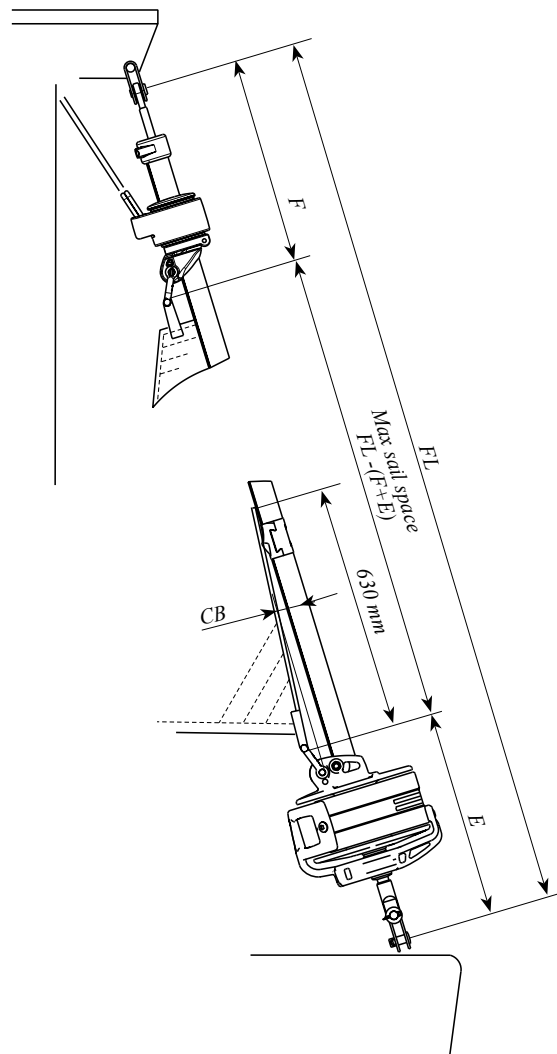

Fig. 7.1.b
- To fit the Furlex system, an existing sail may need a number of modifications.. The maximum luff length is calculated as shown in Table 7.1.1 and fig. 7.1.b. FL-(F+E), (existing forestay length as shown in table 3.5.1 – head deduction -tack deduction).